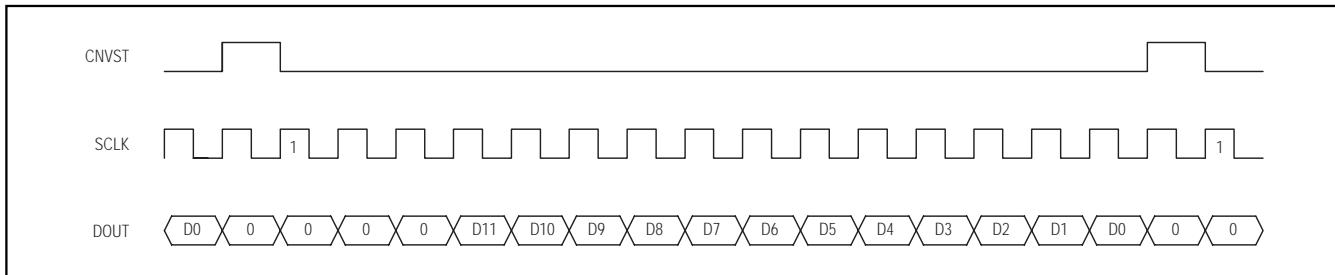

Figure 17. DSP Interface—Continuous Conversion
The MAX1277/MAX1279 can also be connected to the TMS320C54_ by using the data transmit (DX) pin to drive CNVST and the CLKX generated internally to drive SCLK. A pullup resistor is required on the CNVST signal to keep it high when DX goes high impedance and 0001hex should be written to the DXR continuously for continuous conversions. The power-down modes may be entered by writing 00FFhex to the DXR (see Figures 17 and 18).
and for an active-low frame (LTFS = 1, LRFS = 1) signal. This is also the best way to enter the power-down modes by setting the word length to 8 bits (SLEN = 1001). Connect the V_L pin to the $ADSP21_--$ supply voltage when the MAX1277/MAX1279 are operating with a supply voltage higher than the DSP supply voltage (see Figures 17 and 18).